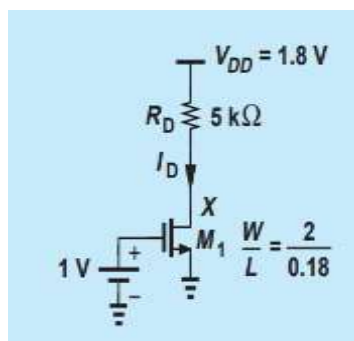

Figure 2.10 Simple MOS circuit
2.1 Calculate the bias current of M_1 in Fig. 2.10. Assume $\mu_n C_{ox} = 100 \mu\text{A}/\text{V}^2$ and $V_{TH} = 0.4 \text{ V}$. If the gate voltage increases by 10 mV, what is the change in the drain voltage?
**2.2 Determine the value of W/L in Fig. 2.10 that places M_1 at the edge of saturation and calculate the drain voltage change for a 1mV change at the gate. Assume $V_{TH} = 0.4 \text{ V}$.